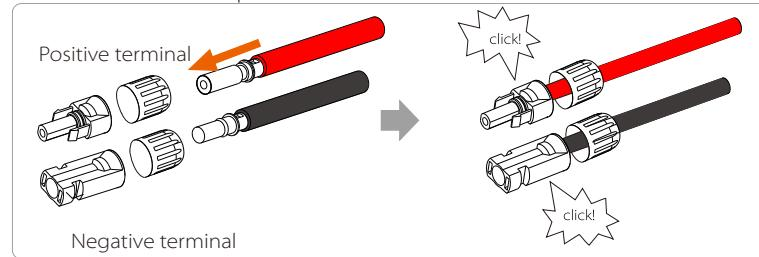

Figure 2
Step 3. Tighten the cable with the insulation layer stripped and insert it into the metal terminal (see Figure 1), make sure all wires are inserted into the metal terminal (see Figure 2).